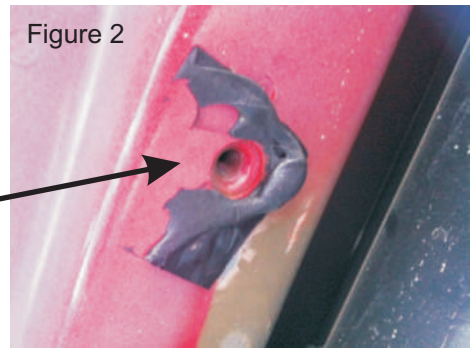

Figure 2
For 2012+ models, there are pre-threaded holes in the under side of the floor board. They are covered by black piece of tape. (Figure 2) Attach the Front Driver Side Mounting Bracket to the under side panel using the included (1) 8mm x 35mm hex head bolt (1) 8mm lock washer and (1) 8mm flat washer.
- Locate (1) 8mm x 35mm hex head bolt (1) 8mm lock washer and (1) 8mm flat washer, bolt the bracket assembly to the frame rail using the pre-threaded hole in the frame rail. Hand tighten.
- Your new Boards are now ready to attach to the vehicle. Open the package carefully remove the two SS or Black bars. The 14300 hardware kit includes four end caps and eight X-mas tree fasteners. Locate two end caps labeled "L" and "R" position them on the Drivers side bar so the holes in the board and the cap line up. To determine Drivers and Passenger bars, the large step pad goes toward the front of the vehicle. (See Figure 2). Insert the fasteners through the holes and press into place. Repeat for Passenger side bar. The boards also come with four large plastic end caps for other applications which do not apply, these can be recycled or discarded.